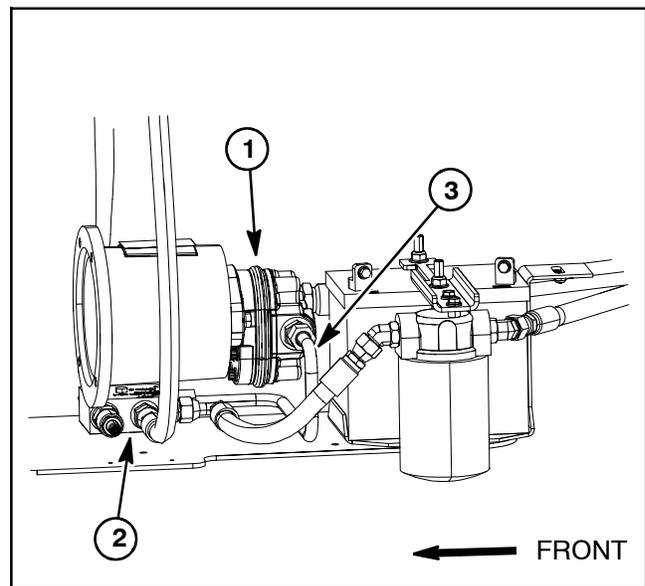

Figure 4
3. Thoroughly clean junction of both ends of hydraulic tube and fittings on gear pump and relief valve manifold (Fig. 4). Disconnect tube from both pump fitting and manifold fitting. Then, remove hydraulic tube.